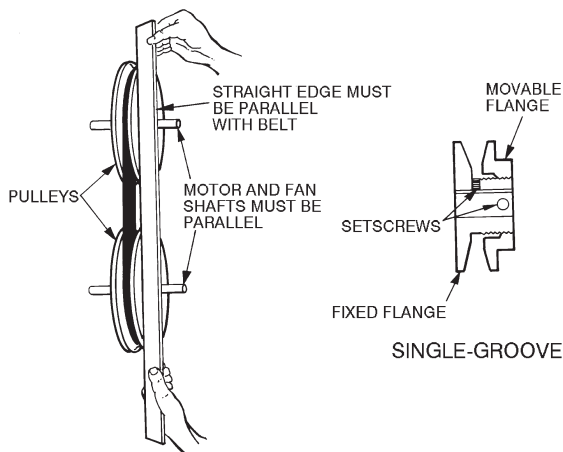

Fig. 28 — Fan Pulley Adjustments
3. Loosen movable pulley flange setscrew (Fig. 28).
Pulley Alignment — Shut off unit power supply. Lock out power supply and tag disconnect locations. Loosen fan motor pulley setscrews and slide fan pulley along fan shaft. Make angular alignment by loosening motor from mounting bracket (see Fig. 28). Check alignment with a straightedge.